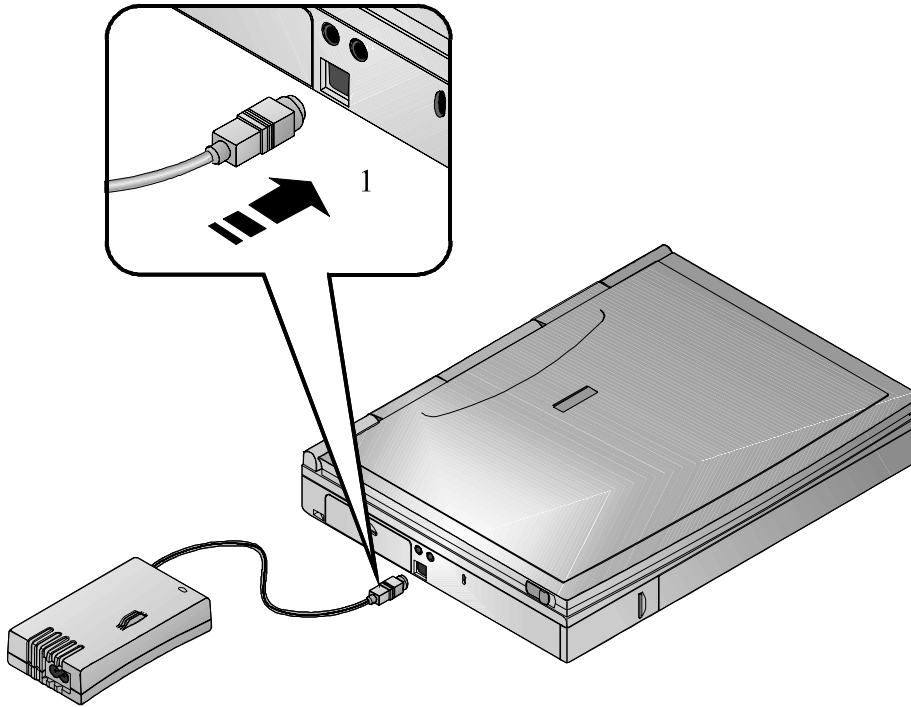
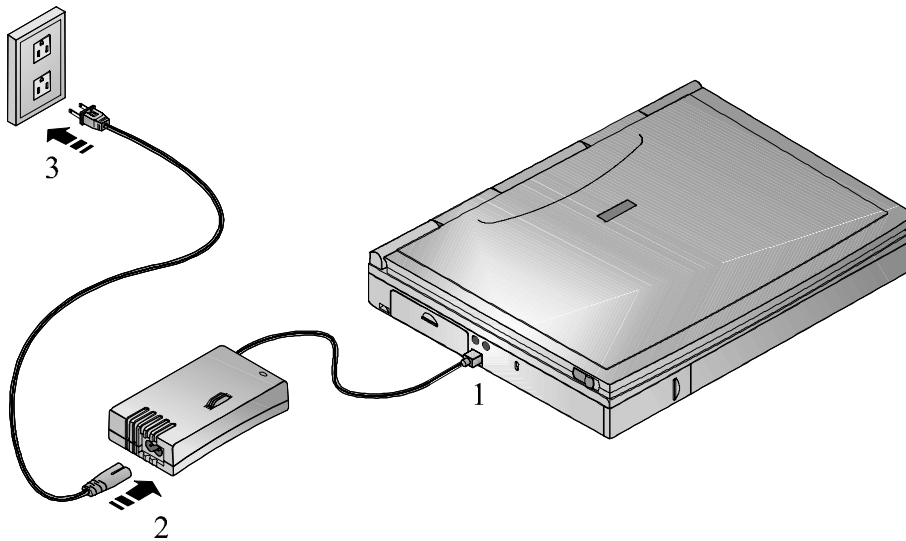

Figure 1-5: AC Adapter to Notebook Connection
Figure 1-6: The Notebook to AC Power Connection
To power the notebook by using the supplied Universal AC Adapter, refer to Figure 1-5, Figure 1-6 and the following instructions:
1. Connect the Universal AC Adapter to this port (Figure 1-5, step 1).
2. Connect the power cord to the port on the AC Adapter (Figure 1-6, step 2).
3. Plug the power cord into an electrical outlet. The green LED on the AC Adapter will light (Figure 1-6, step 3).